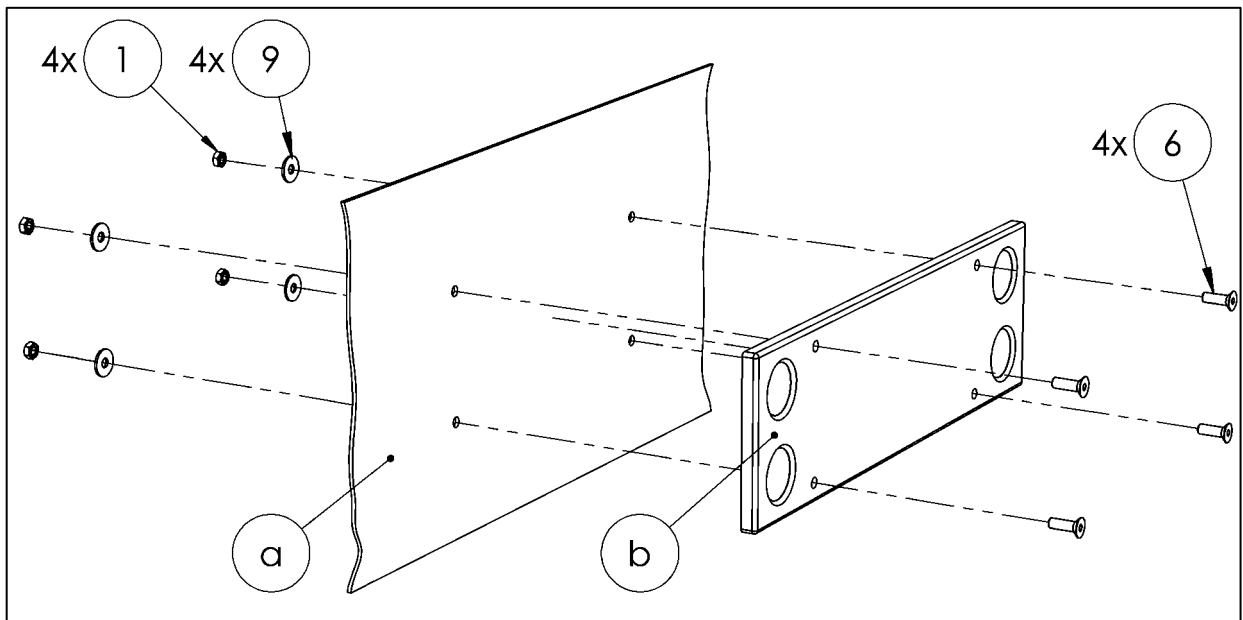
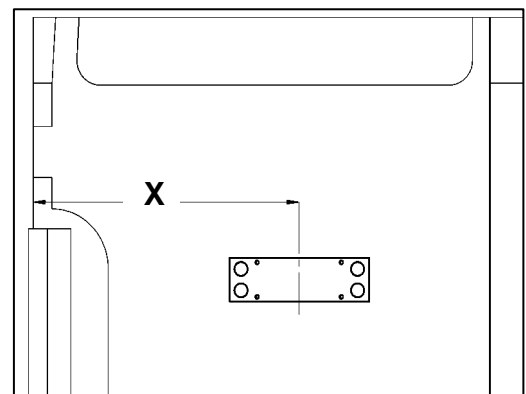

Fig. 32
Fig. 43
- Route the control panel cable to the cargo area so that it can be secured to the right-hand door (a) (protect against kinks and ensure correct cable length for fully opened door, using corrugated tubing if necessary) (see Fig. 32).
- Secure the control panel (b) to the right-hand vehicle door (a) using the fasteners (1, 6, 9) from the **accessories kit**, maintaining a distance of 400 mm \pm 100 mm ($15\frac{3}{4}$ " \pm 3 $\frac{15}{16}$ "") as per specifications (see Fig. 32 and Fig. 43).